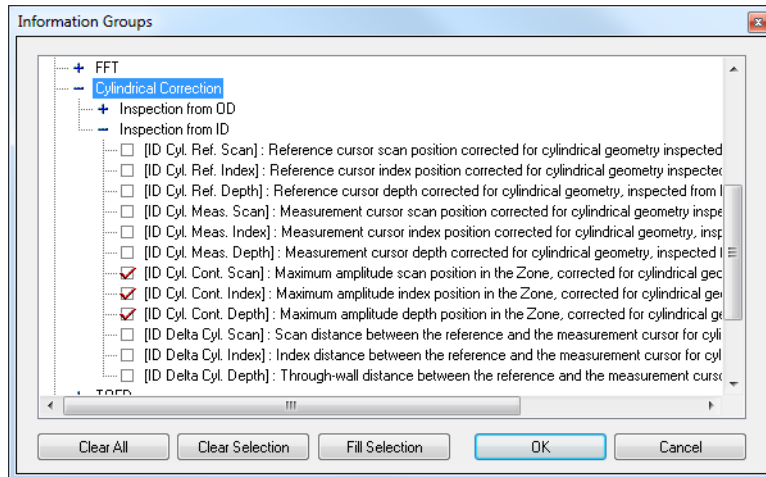

Figure 7-72 Selection of ID-related parameters
1. Make sure that at least the reference (red) cursor is present in the VC-End (D) view before activating the cylindrical correction.
2. In the VC-End (D) view, select the applicable information fields (either OD- or ID-related) as follows:
- a) Click to activate the VC-End (D) view.
- e) From the **Cylindrical correction** group, double-click to select the applicable information check boxes (see example in Figure 7-72 on page 413 showing a selection of ID-related parameters).